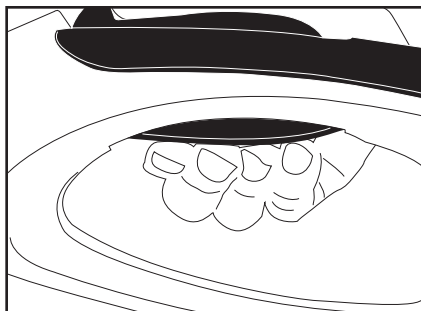

Figure 10
3. While holding the switch under your thumb in the forward position, use your fingers to pull upward on the control trigger. (see figure 10) This will energize the tool and allow you to do your work. It is NOT necessary to keep pressure on the thumb switch after the tool has started.